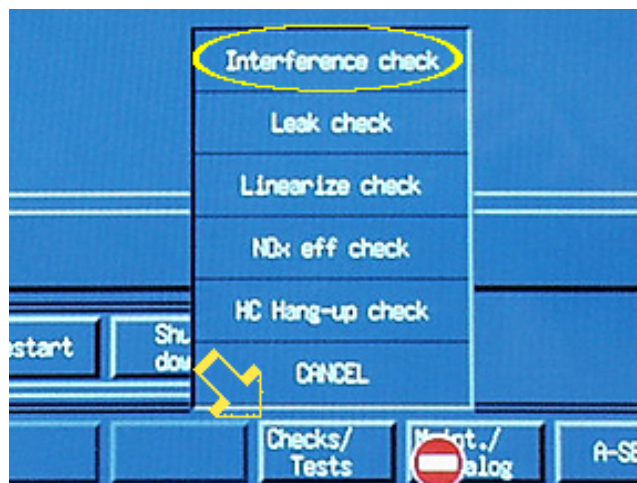

Figure 4
- 102 Click on the “Checks/Tests” button in the command area of the screen. See arrow in Figure 4. From the menu items that appear above the button, click on “Interference Check.” See the circle in Figure 4.